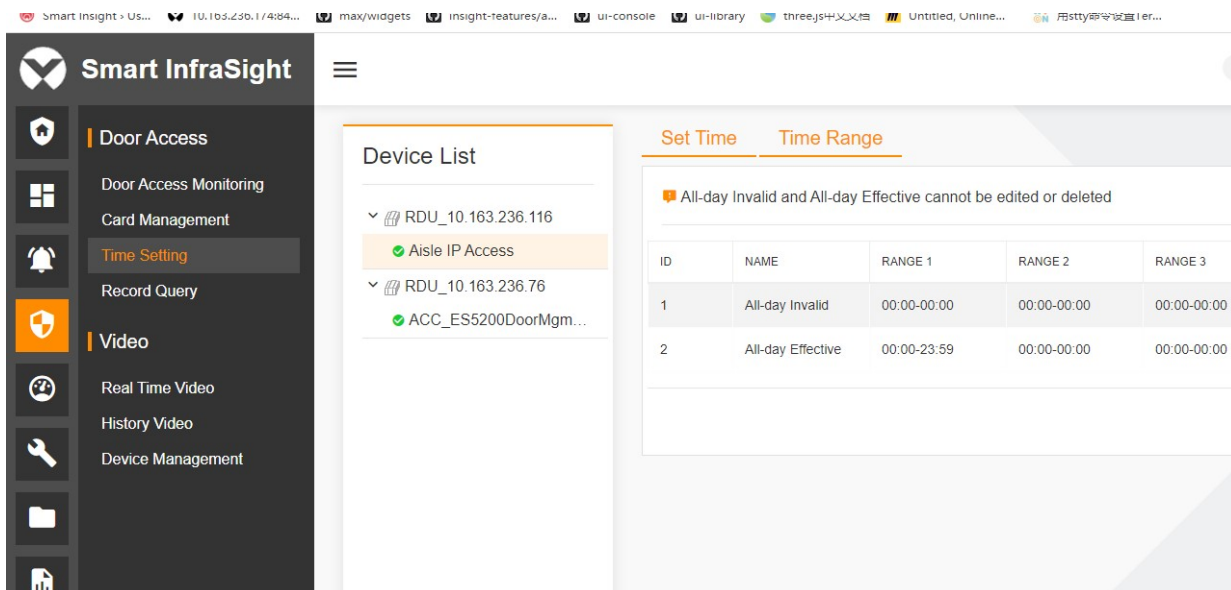

Figure 13-12 Time range management
3. By default, the options of the door opening time range include only **All-day Effective** and **All-day Invalid**. To change the time range, switch to the **Time Range** tab page, as shown in Figure 13-12. For details about time range operations, see section 13.3.3 "Time Setting."